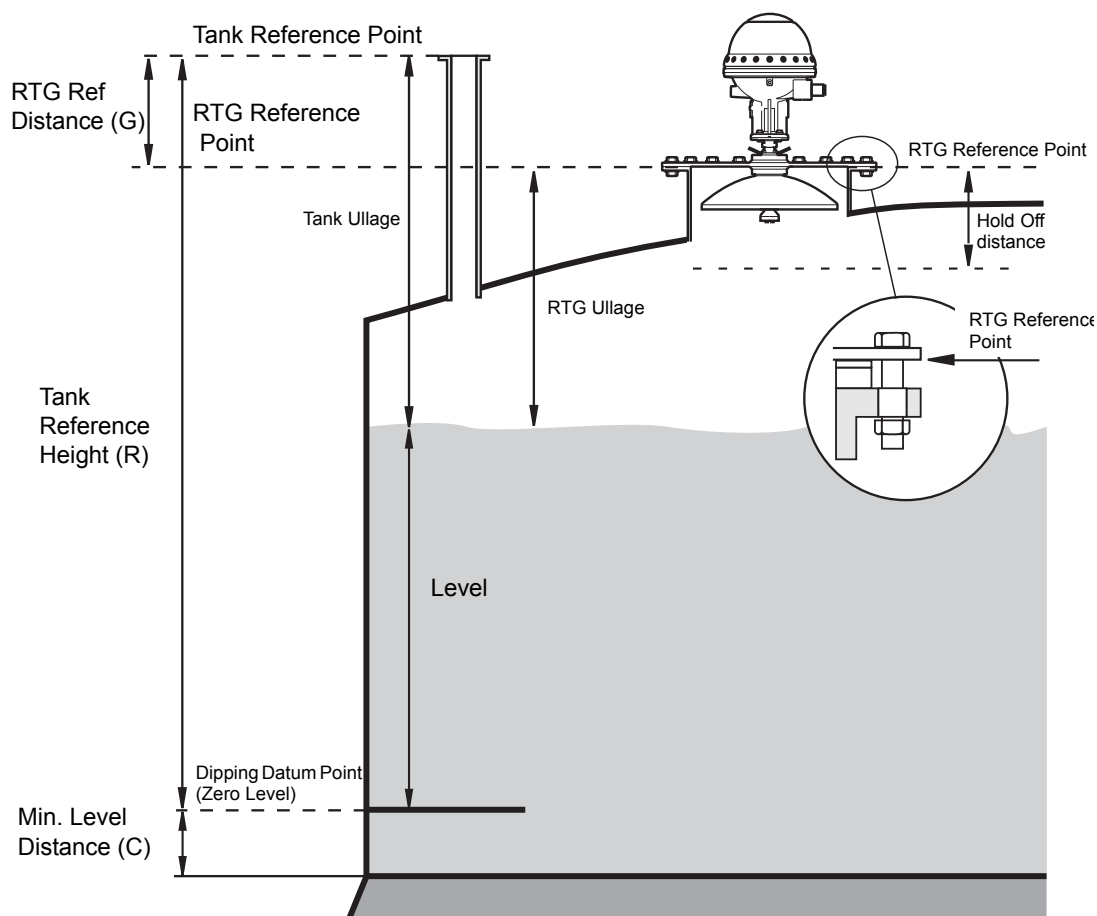

Figure 3-12. Tank geometry
RTG Reference Distance (G)	The RTG Reference Distance (G) is the distance between the Tank Reference Point and the RTG Reference Point. The RTG Reference Point is located at the top surface of the customer's flange or manhole cover on which the gauge is mounted as illustrated in Figure 3-12. For Still Pipe Gauges the RTG Reference point is located at the hand-dip mark on the Still Pipe Gauge Stand. G is positive if the Tank Reference Point is located above the RTG Ref Point. Otherwise G is negative.